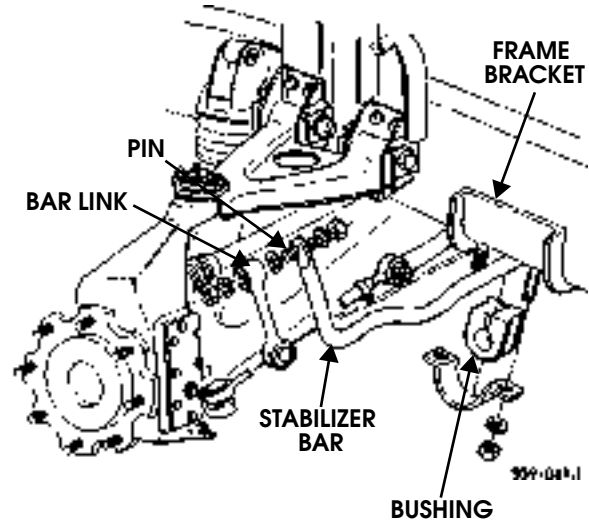

Figure 9-2: Stabilizer Bar Replacement
1. Remove two locknuts, three washers, and pin securing bar link to stabilizer bar (Figure 9-2).
1. Install bushing on stabilizer bar (Figure 9-2).